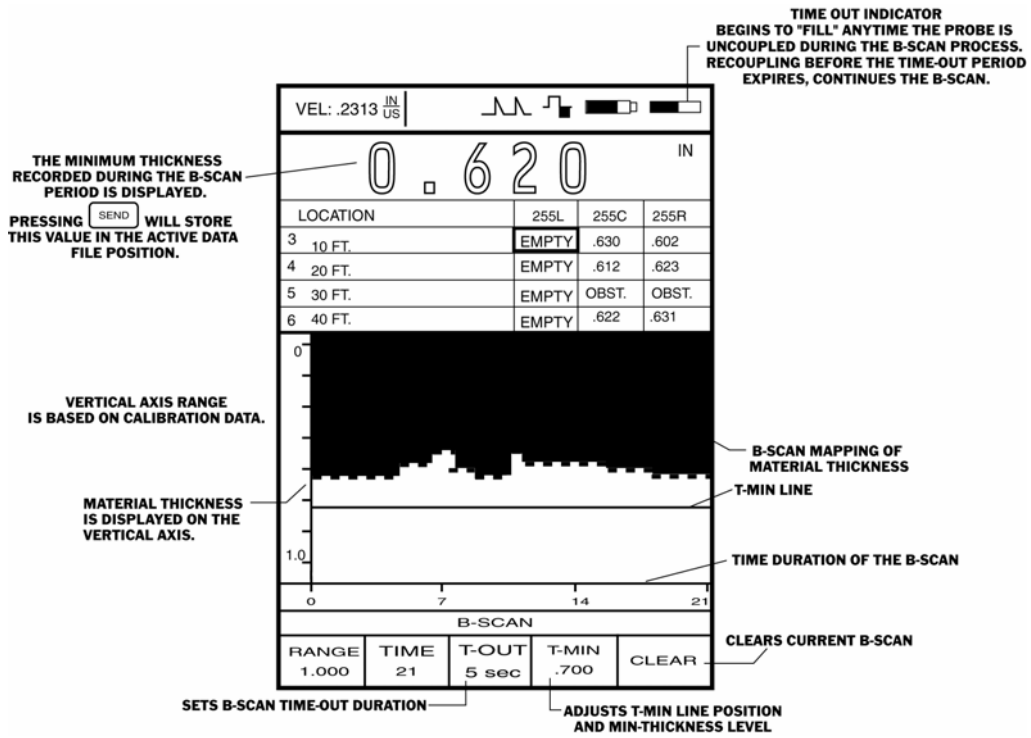

FIGURE 4-16—Shown here is a typical B-scan display. This feature is only accessible in the SIP, DUAL, T-COAT, and AUTO-V measurement modes.
B-scan thickness mapping allows the user to measure the thickness of a section of material, for a period of up to 21 seconds, and display a graphical cross-section of the measured thickness. Figure 4-16 shows a typical B-scan display over a period of 21 seconds (shown on the horizontal axis). See Figure 4-16 for a description of the various B-scan operating features. Then, use the following procedures to configure the DMS 2 to operate in B-scan mode.
Step 3: Once it's turned on, the display screen will change to look like the one shown in Figure 4-16.
The B-scan mode will allow you to map the thickness profile of the material being tested over a period of time. The thickness mapping procedure may be briefly interrupted during this time period. The maximum length of this interruption of data collection is controlled by the TIME-OUT feature, which can be set between 0 and 15 seconds. If the probe is uncoupled during the B-scan procedure, the time-out period begins. The TIME-OUT indicator (Figure 4-16) will begin to “fill in” with dark shading. When the TIME-OUT indicator is completely filled in, the time-out period is over and the B-scan is complete. However, if the probe is recoupled during the time-out period, the B-scan image will continue to “draw” across the display.
The B-scan Mode will allow you to map the thickness profile of the material being tested over a period of time. While the material thickness is displayed, a graphic line representing the Minimum Thickness Alarm Level can be displayed. (Refer to Section 3.3.2 to review how to set alarm thickness values.) This line is shown in Figure 4-16.